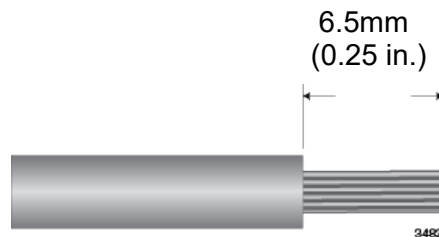

Figure 45. Stripping an Alarm Wire
1. Strip 6.5mm (0.25 in.) of insulation from the end of a wire with a wire insulator stripper. Use 24 to 18 AWG stranded wires properly rated for the installation site. Refer to Figure 45.